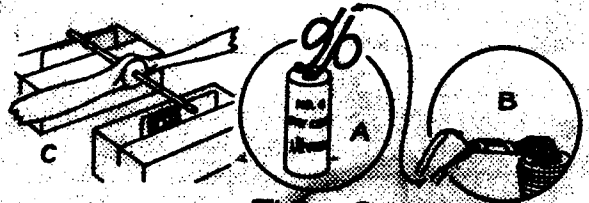

FIG. 2
3. Connect the battery by snapping the clip on the glow plug, B-Fig. 2.